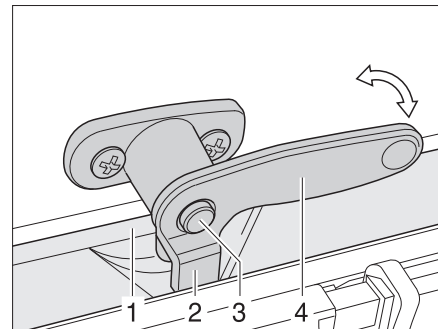

Fig. 72 Catch lever with safety knob in "closed" position
- If it exists, press the safety knob (Fig. 72,3) down and hold it.